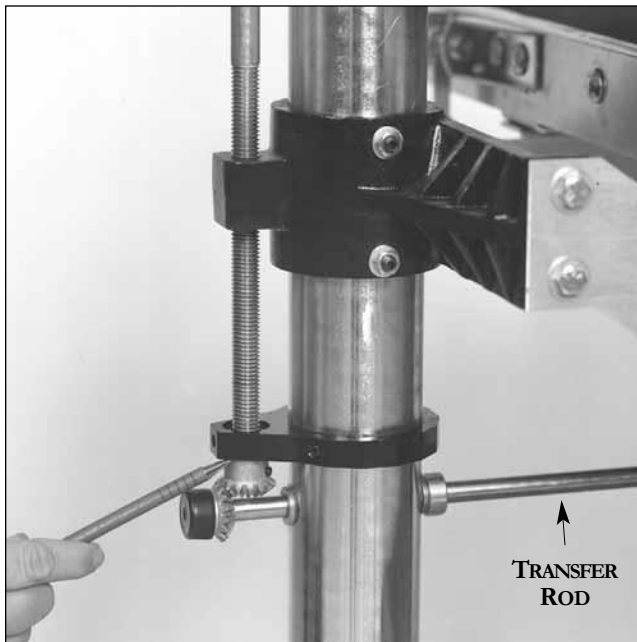

Fig. 15. Miter gear below adjusting screw support.
2. Lubricate thoroughly by applying penetrating lubricant to the table support castings where they contact the column tubes, and to all contact points of adjusting screws and transfer rod (Fig. 15). Also apply grease or oil to the miter gears.
(outboard) brush support casting (Fig. 15) must both be set at the proper height along the column tubes so the height adjusting screws provide for proper miter gear alignment. Before adjusting these parts, tighten one set screw in the table support castings (Fig. 5) to hold the height adjusting screw in position during adjustment.
The mesh of the miter gears should be smooth and even. If not, adjust the gears for good mesh. Measure the space between the miter gear and the adjusting screw support that holds the height adjusting screw in place (Fig. 15). The distance